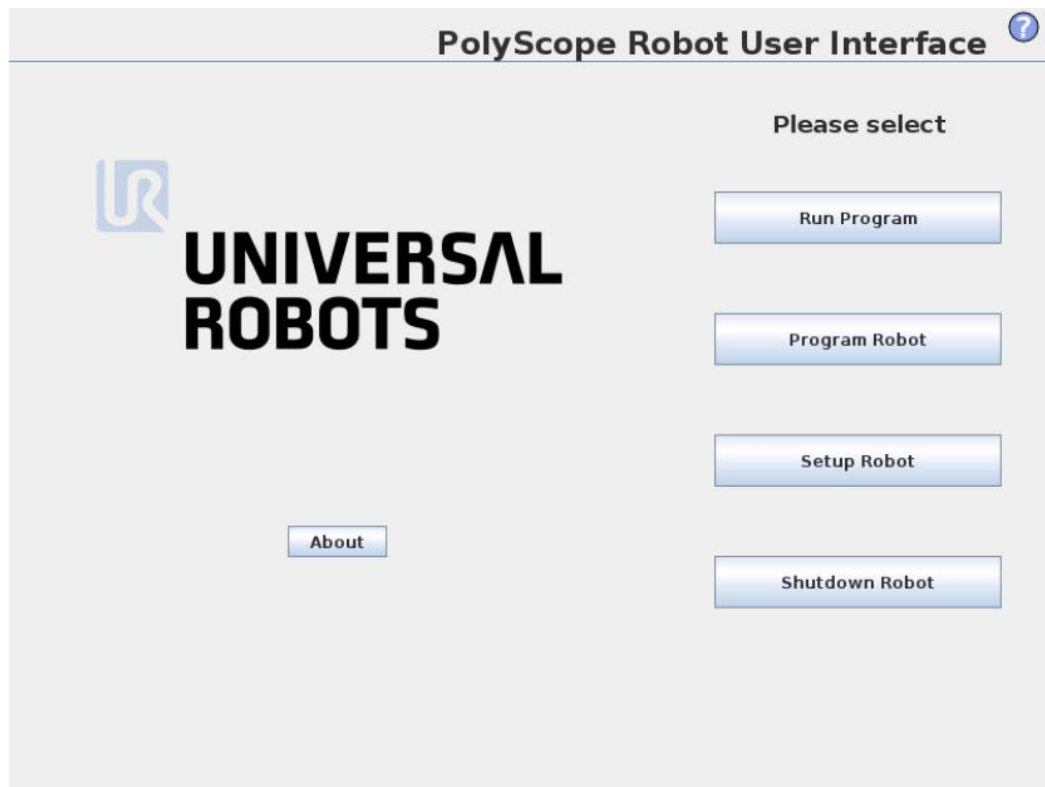

Figure 8 UR5 Welcome screen
1. To program the robot press the “PROGRAM Robot” button on the Welcome screen (Figure 8).